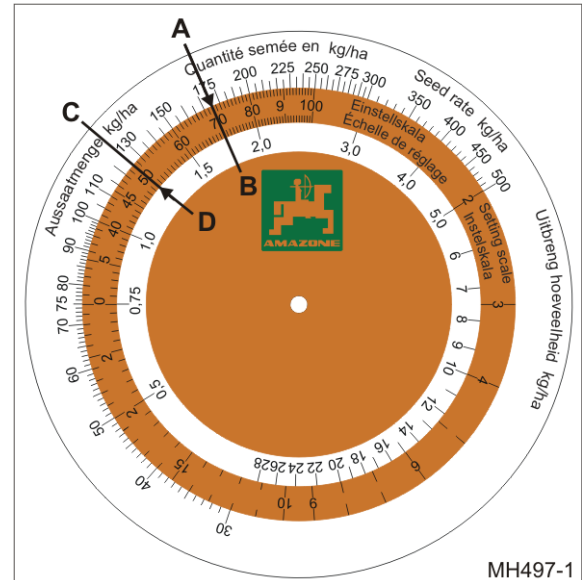

Fig. 200
- o Calculated application rate 175 kg/ha (Fig. 200/A)
- o Gearbox setting 70 (Fig. 200/B) opposite one another on the calculating disc rule.
2. Read the gearbox setting for the desired application rate of 125 kg/ha (Fig. 200/C) from the calculating disc rule.
- Gearbox setting 50 (Fig. 200/D).